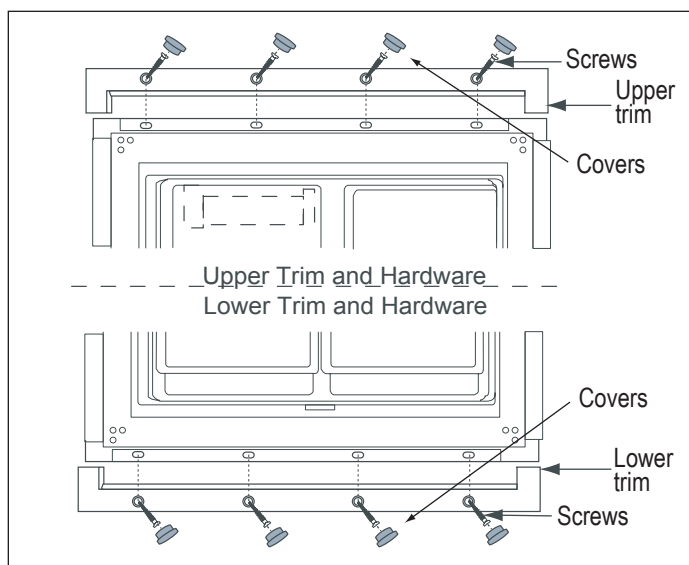

Figure 2. Removing the Upper and Lower Trim Pieces
3. Remove the decorative screw covers from the upper and lower trim pieces, then unscrew and remove the trim pieces. Refer to Figure 2. These screws also help to fasten the refrigerator to the RV enclosure.
4. Reinstall the lower trim piece with its same screws, and replace the decorative screw caps. Refer to Figure 2.